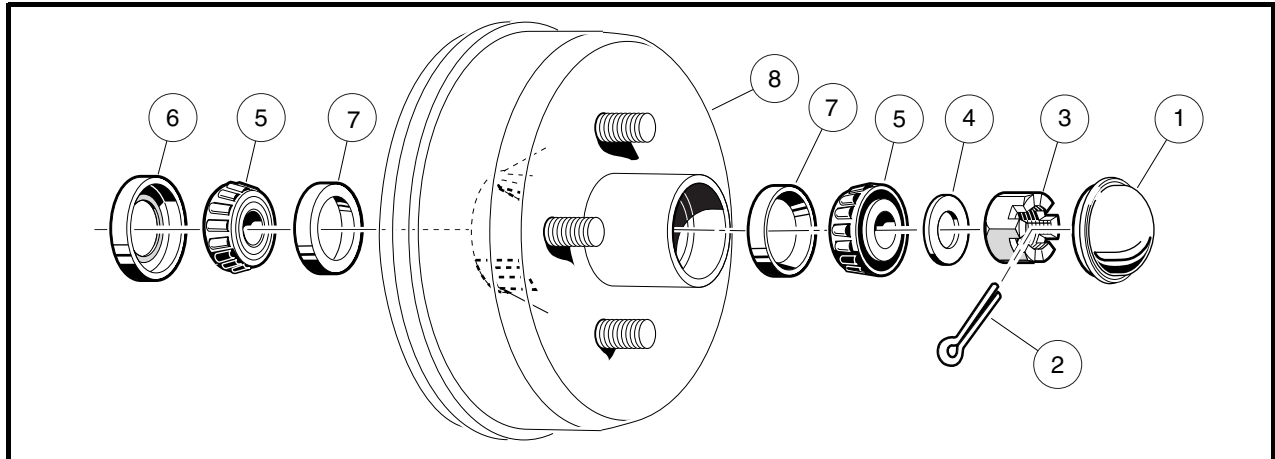

Figure 6-2 Front Spindle and Brake Drum Assembly
- 4.1. Remove the dust cover (1) and cotter pin (2) (**Figure 6-2, Page 6-7**).